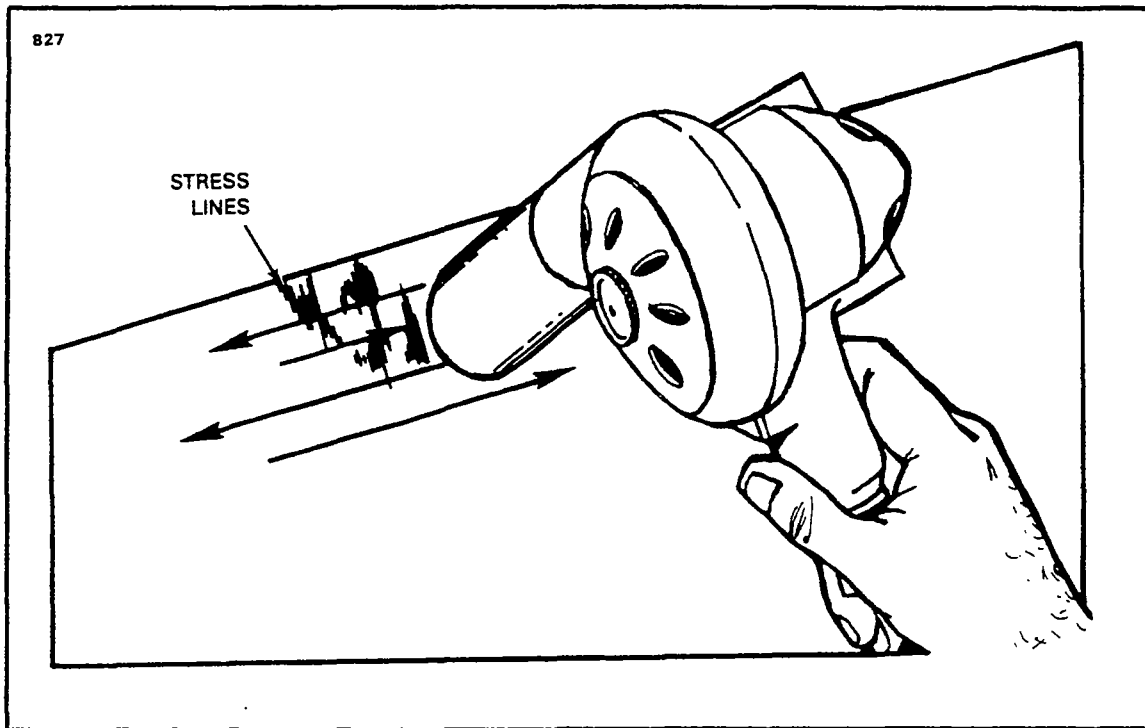

Figure 4-17. Repair of Stress Lines
f. Stress Lines: (Refer to Figure 4-17.)